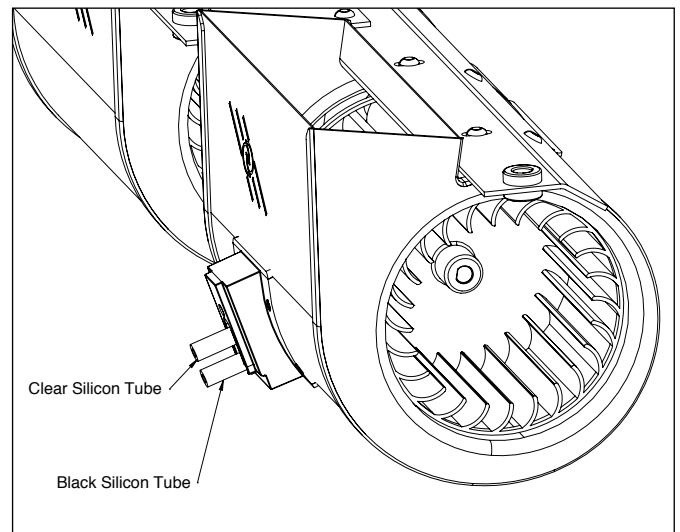

FIG 23 Room Fan
5. Insert fan into fan chamber ensuring that the venturi is not disturbed. Replace silicon tubes onto the venturi and locate fan onto male thread. Secure with M5 wing nuts, ensuring rubber buffer locates over thread. Refer FIG 23.